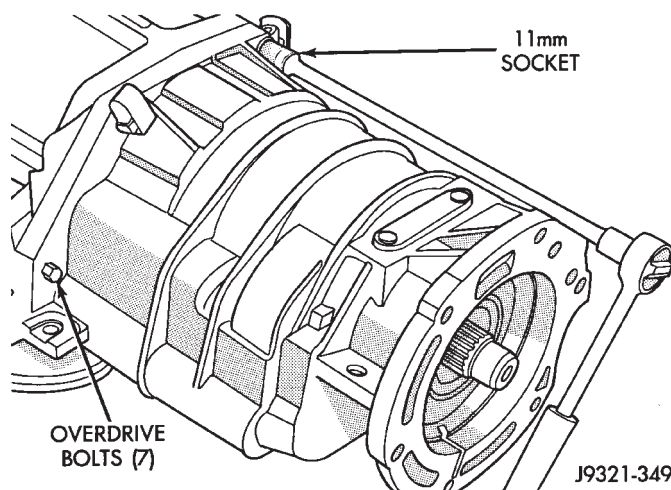

Fig. 245 Overdrive Unit Attaching Bolt Removal
(2) Place transmission in upright position (Fig. 245).
(3) Remove bolts attaching overdrive unit to transmission case (Fig. 245). Note position of wire harness clips for installation reference.